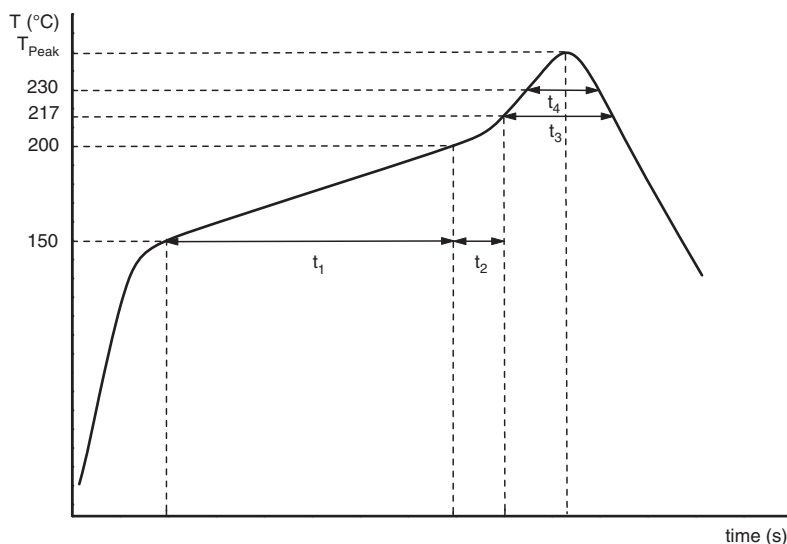

Fig.4 Maximum temperature load during reflow soldering
For maximum conditions refer to Fig.4 or Fig.5.
(1) Standard reflow soldering profile, see Fig.4 and Table 4